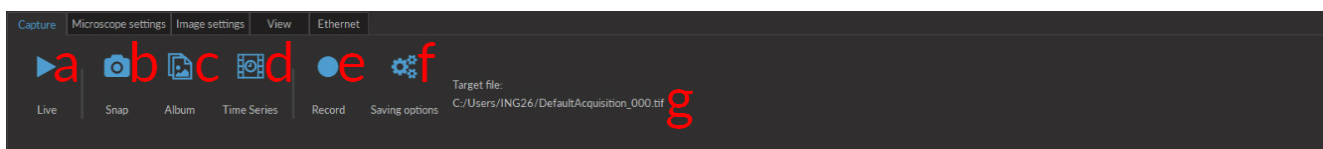
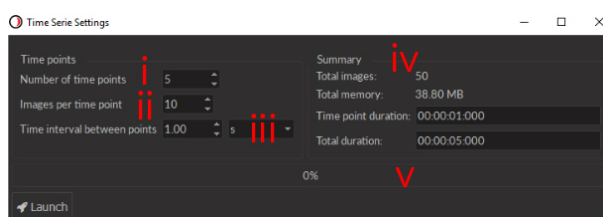

Figure 3.49: Capture Tab
Figure 3.50: Time Series Window
- a) The **Live** button (Fig. 3.49), when pressed, displays images from the microscope. These images are not saved.
- b) The **Snap** button (Fig. 3.49), when pressed, takes a snapshot of the current image and saves it in the requested directory with the desired name (**Saving Options**) as a single image.
- c) The **Album** button (Fig. 3.49), when pressed, acquires a snapshot and adds it to an album stack. The whole stack can be saved as one image stack.
- d) The **Record** button (Fig. 3.49), when pressed, acquires a continuous image stream, until **Stop** is pressed, and saves it in the requested directory with the desired name (**Saving Options**) as one image stack.
- e) The **Time Series** button (Fig. 3.49), when pressed, opens the time series interface (Fig. 3.50).
- i. The **Number of time points** (Fig. 3.50) defines the number of moments when a set of images will be recorded.
- ii. The **Images per time point** (Fig. 3.50) defines the number of images taken in each set.
- iii. The **Time interval between points** (Fig. 3.50), defined in ms, s and min, defines the duration between each image set. This duration always has a minimum value of **Exposure time × Images per time point**.
- iv. The **Summary** box (Fig. 3.50) shows many values related to the time series, including the **Total images** recorded, the **Total memory** occupied by the full series, the **Time point duration** and the **Total duration** of the full series.
- v. The **Progression bar** (Fig. 3.50) displays the progress (in %) of the time series.